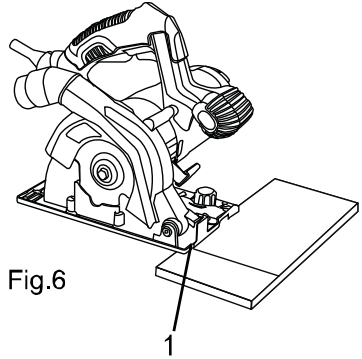
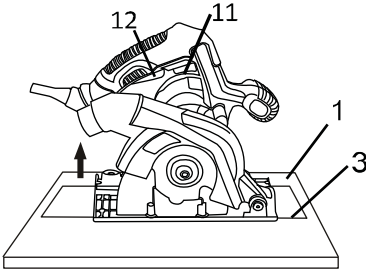

Fig.6
Fig.7
2. Set the saw on the workpiece (1) so the base plate is flat on the workpiece (Fig. 6).
3. Align the saw blade with the cutting line (3).
4. Press the plunge release (12) and switch trigger (11) to start the saw and slowly lower the blade onto the workpiece to allow the blade to cut into the workpiece (Fig. 7). Allow the blade to cut through the wood.